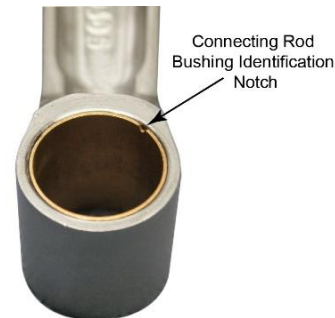

Figure 1
- All connecting rod bushings without the identifying notch (Figure 1 shows a connecting rod bushing with the identifying notch).